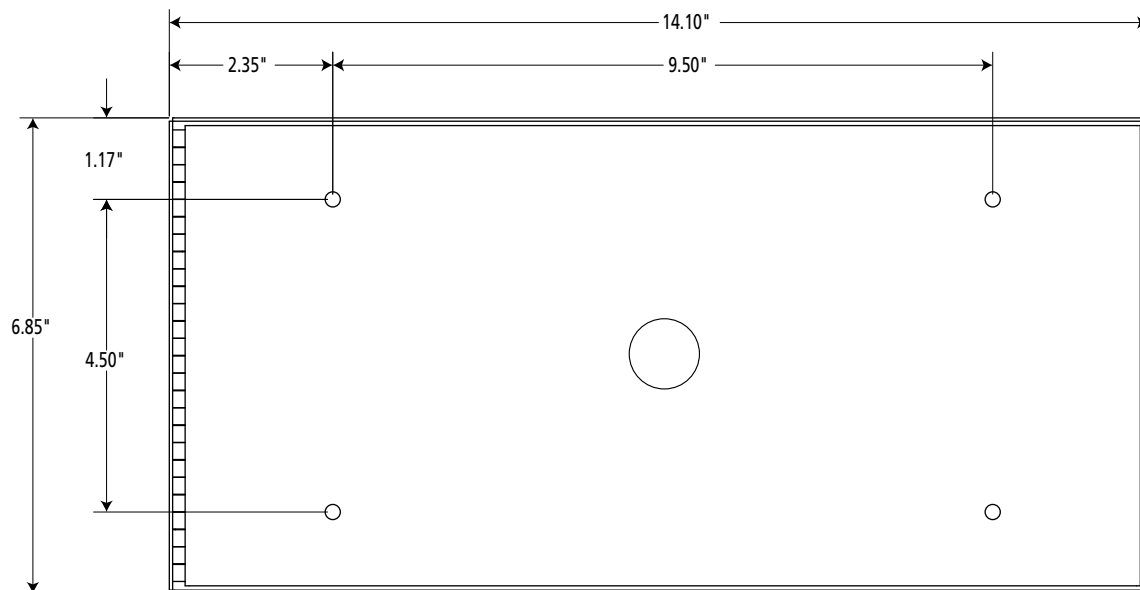

Figure 1
3. Place housing at the intended mounting location. Locate and drill (4) pilot holes in mounting surface using housing as template or see figure 1 below. Using 1/4-20 fasteners and anchors appropriate to the mounting surface (supplied by others), mount housing to surface.